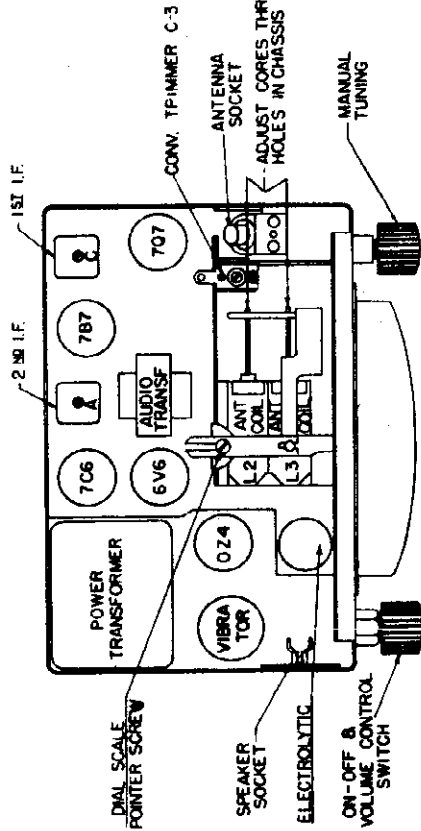
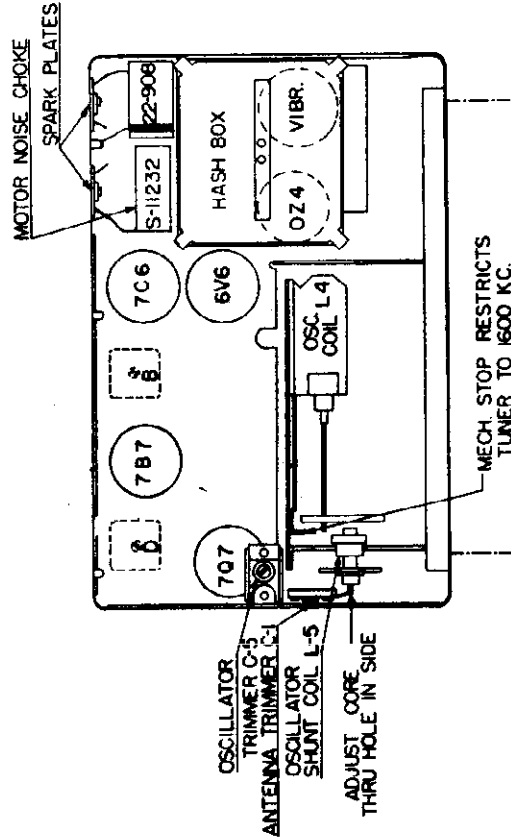

Fig. 7. Top View of Chassis
Fig. 8. Bottom View of Chassis
- 6—Adjust oscillator trimmer C-5 (Fig. 8) at 1675 Kc.
- 7—Adjust converter trimmer C-3 and antenna trimmer C-1 (Fig. 7 and 8) for maximum output reading.
- 10—Adjust oscillator core L-4 (Fig. 8) to scale at 1200 Kc.
- 11—Adjust the two antenna cores L2 and L3 (Fig. 7) for maximum output reading. Do not adjust trimmer.
- 13—If necessary, "rock in" shunt oscillator core L-5 (Fig. 8) for maximum output reading. This should be done only as a last resort, as the core has been set and sealed and should not require adjustment.
- 4—Adjust I.F. slugs A, B, C and D (Figs. 7 and 8), in the order named for maximum output. Repeat the operation to assure accurate alignment.
- 4—Adjust oscillator trimmer C-5 (Fig. 8) for maximum response.
- 7—Adjust converter trimmer C-3 (Fig. 7) and Ant. trimmer C-1 (Fig. 8) for maximum response.
- 8—If dial calibration is off after making above adjustments, a correction can be made by turning eccentric screw at fulcrum of dial pointer. (Fig. 7).